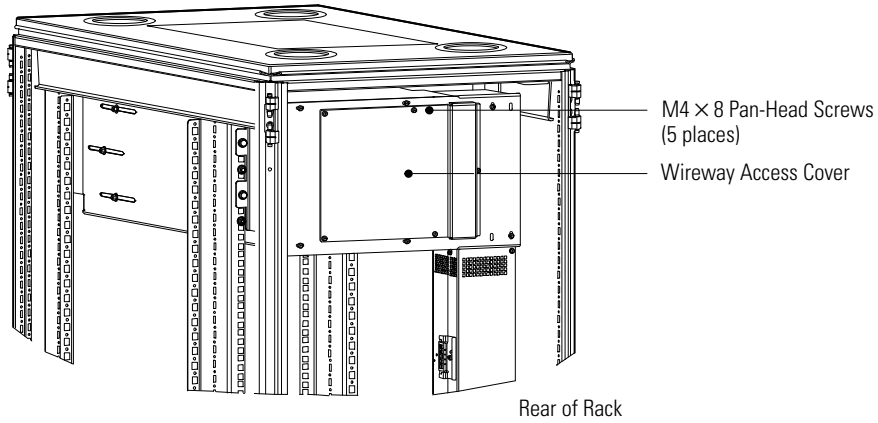

Figure 18. Wireway Access Cover Installation
20. Using five M4 × 8 pan-head screws, install the wireway access cover. See Figure 18. Torque the screws to $1.7 \pm 0.2 \text{ Nm}$ ($15 \pm 2 \text{ lb in}$).